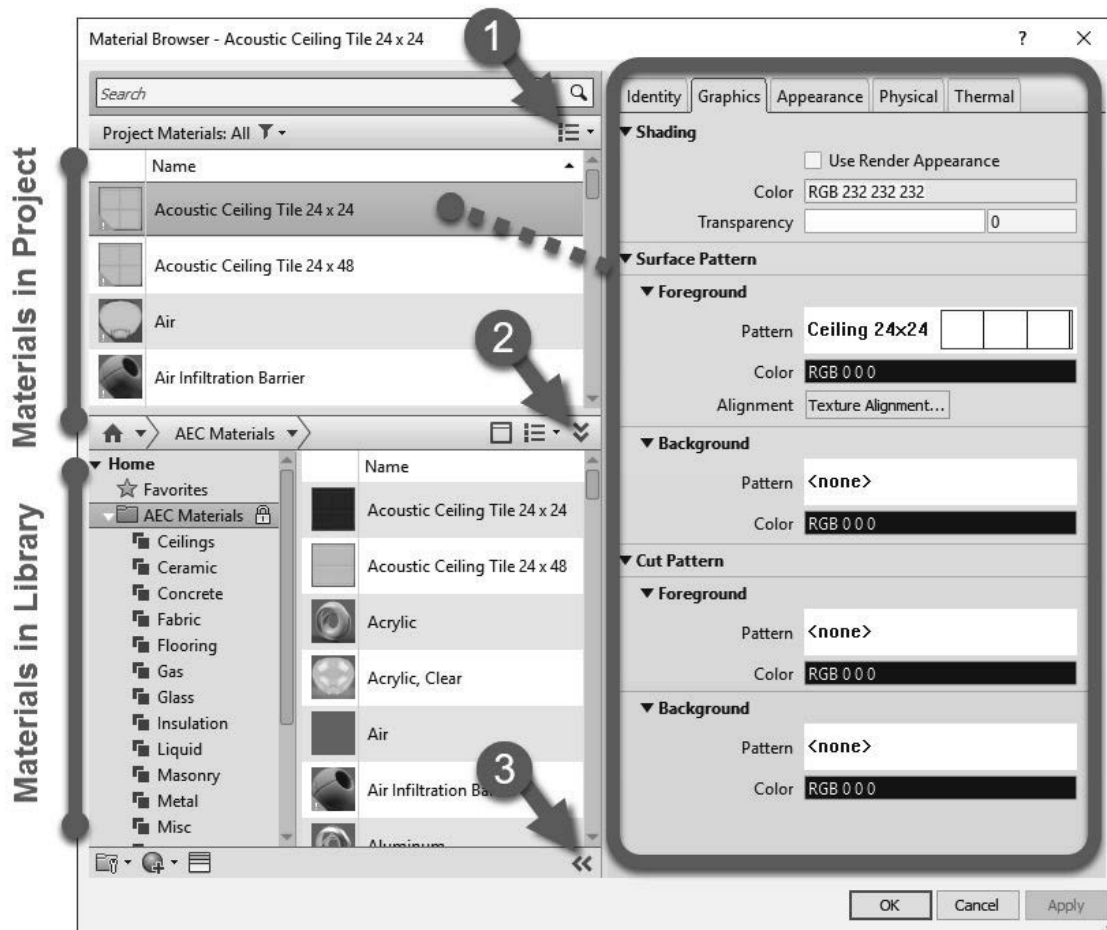
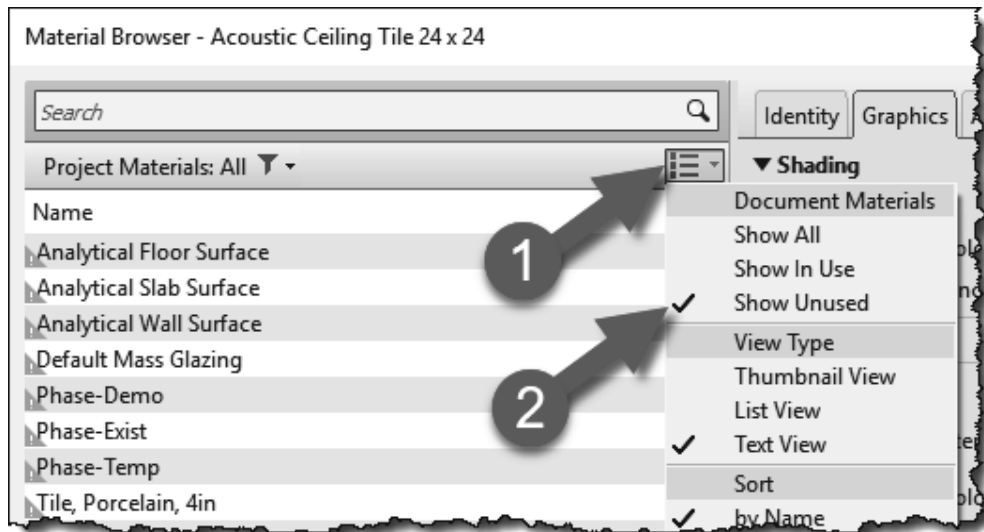

FIGURE 4-2.1 Materials dialog
FIGURE 4-2.2 Sort by Material usage state
You will see the *Materials* dialog shown below (Figure 4-2.1).
**ARROW #1:** Clicking the drop-down list, pointed out with the #1 arrow in Figure 4-2.1, allows you to switch the material list to just be text rather than a preview (see also Figure 4-2.2). This adjustment allows you to see more items in the limited space.
In the *Materials* dialogs (Figure 4-2.1), notice the list of *Materials* on the left side of the screen.
Selecting by the drop-down list (#1, Figure 4-2.2) allows you to narrow the list down to just *Materials* used in the project, or not used. The default is *Show All*, so both used and not used appear in the list; you would normally want to see both.